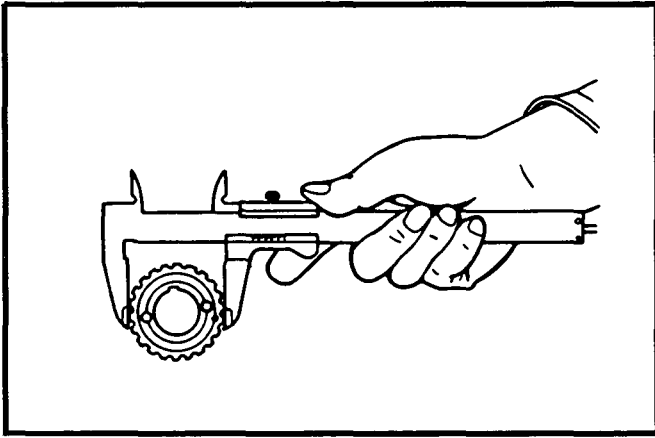

Figure 20.
19. Check the crankshaft timing belt pulley for wear. See Figure 20.